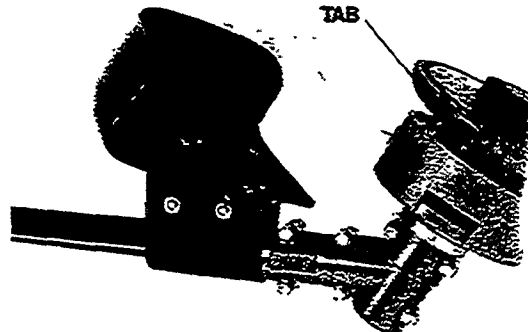

Figure 21
- Re-install rotary head cap by aligning locking tabs with their notches and pushing cap down until both locking tabs are securely locked (Figure 21).